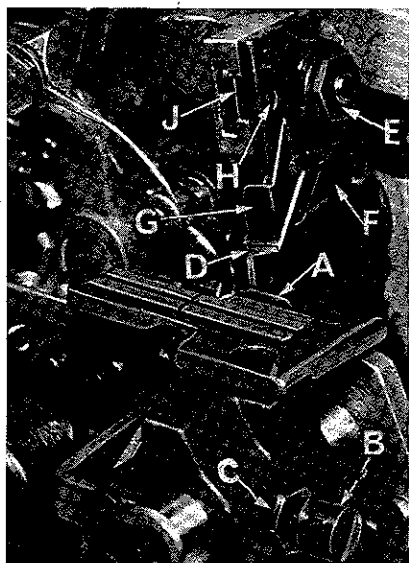

Fig. 13
Replace lower knife holder assembly. Lower knife (A, Fig. 13) should be set with cutting edge flush with throat plate surface. Adjustments are made with hexagonal head screw which holds lower knife. Lower knife is spring pressed against upper knife, so no lateral adjustment is necessary when width of trim is changed.
Replace upper knife assembly. Clamp upper knife (D, Fig. 13) in position, setting nut (E) to hold clamp (F) in its most clockwise position against upper knife. At bottom of its stroke, front cutting edge of upper knife should extend not less than $1/64$ inch below cutting edge of lower knife. The chain guard (D) should be set down against the upper knife and slightly back from the cutting edge.